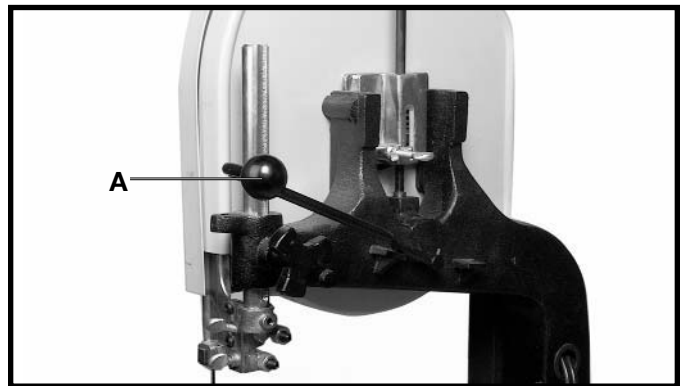

Fig. 28
The Band Saw is equipped with a tension handle (A) Fig. 28. To apply tension, move the tension handle (A) Fig. 28 to the right as shown. To release the blade tension, move the tension handle (A) Fig. 29, to the left as shown.
To adjust the blade tension, the blade tension handle must be in the right as shown in Fig. 28. A series of graduations is located on the back of the upper wheel slide bracket. These graduations indicate the proper tension for various widths of blades. With the blade on the wheels, turn the knob (A) Fig. 30 to raise or lower the wheel, until the red fiber washer (B) Fig. 30 is in line with the proper graduation for the size of the blade used.